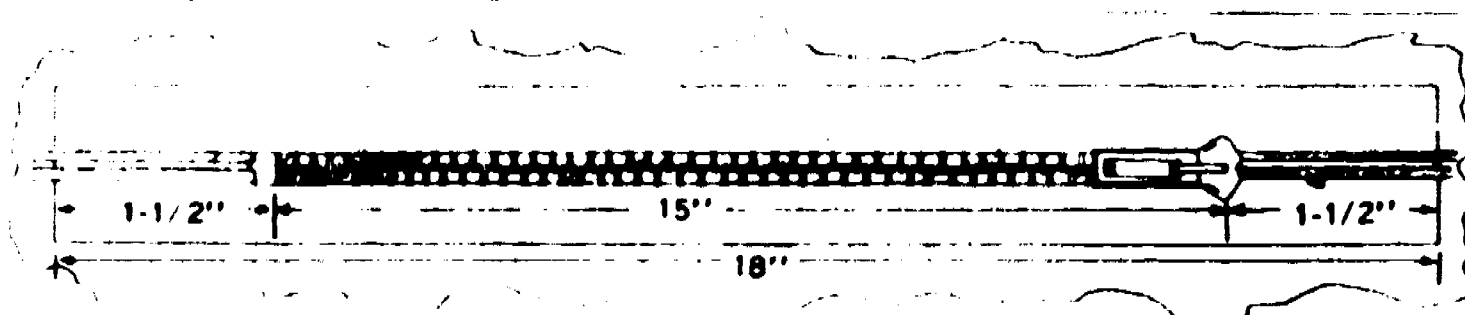

Figure 9. Correct Measurement for a 12-Inch Interlocking Fastener.
1. Cut a strip of interlocking fastener 15-inches long (figure 9). This allows 1 1/2 inches extra at each end of attachment of parts and folding when sewing.